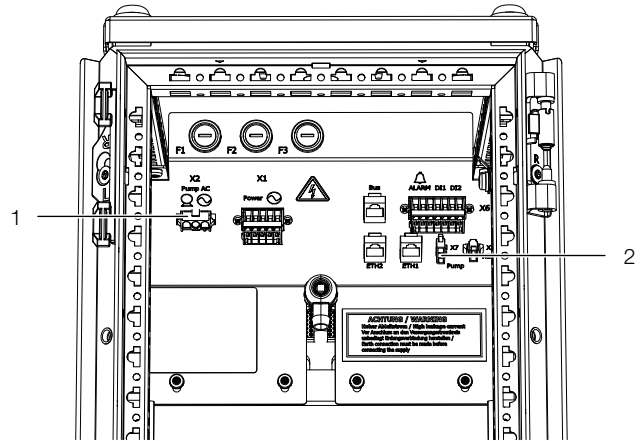

Fig. 68: Connection points
■ Route the DC and AC cables of the condensate pump separated upwards to the connection sockets in the LCP (fig. 68).